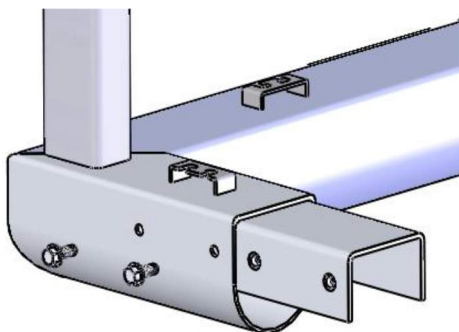

Figure 2A
2. Use (2) 3/8" – 16 x 1" serrated hex bolts to attach the top bar channel to the inside of each end frame (Figs. 2A & 2B). **Note: Do not tighten hardware until all bolts are in place.**